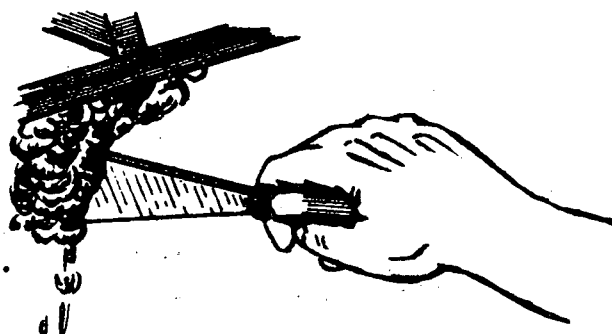

Fig. 2
- b) Scrape the paint with a paint scraper (Fig. 2).